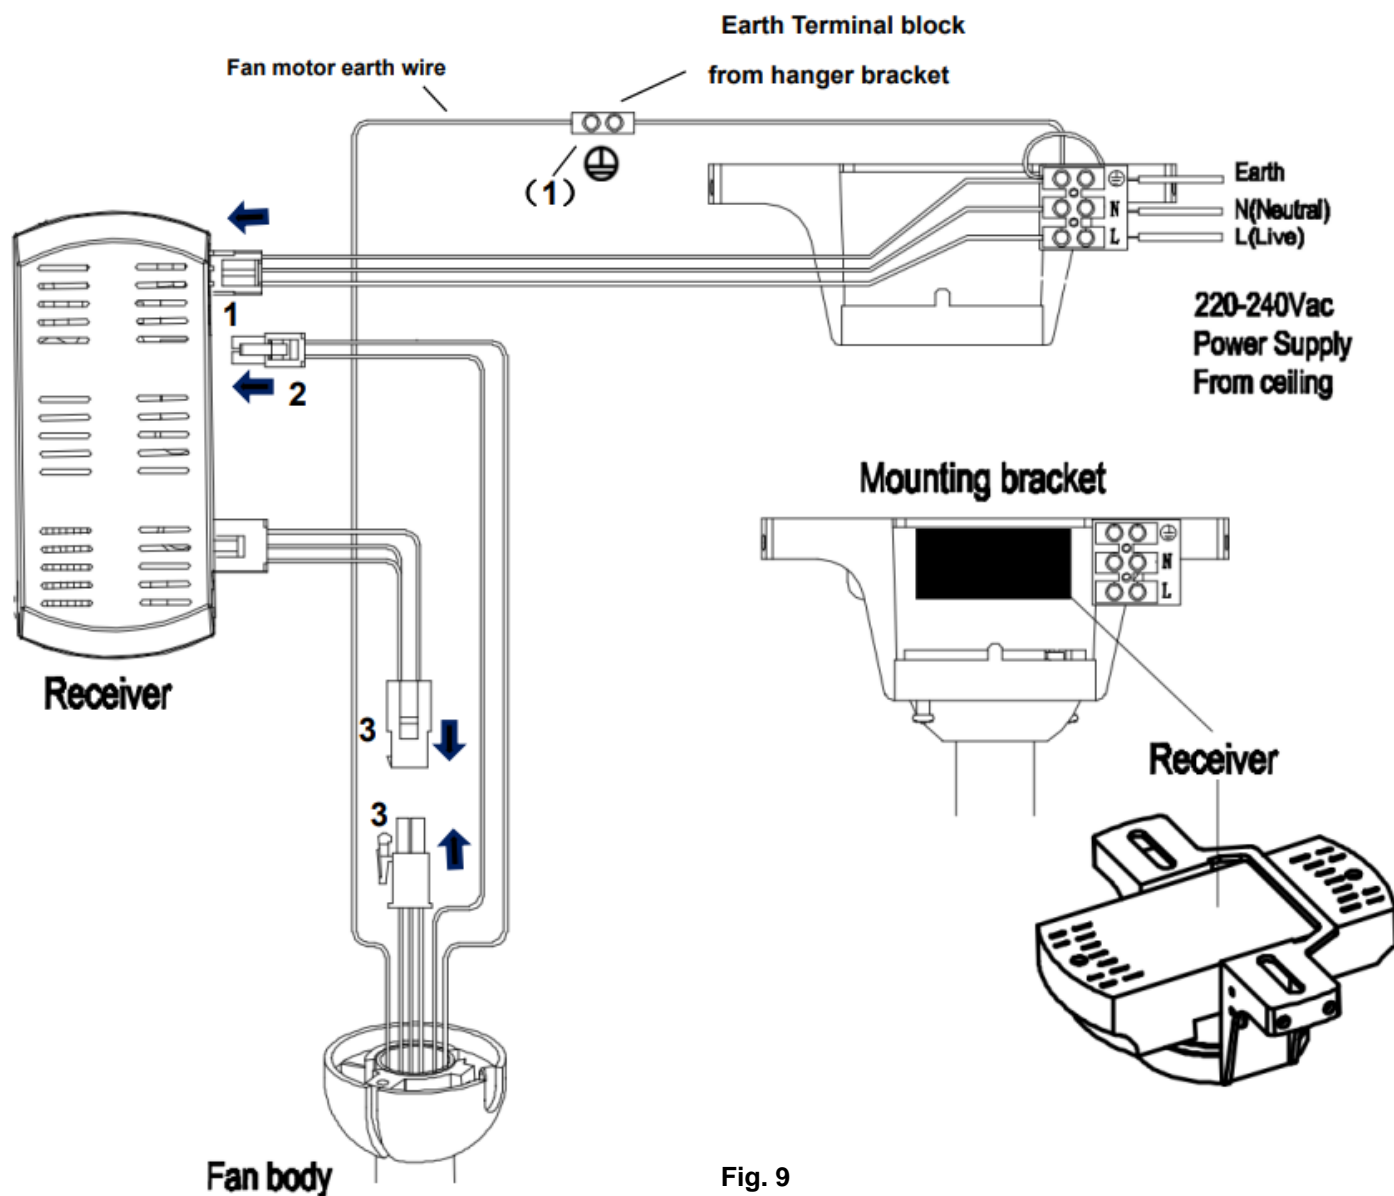

Fig. 9
PREPARE AND COMPLETE THE ELECTRICAL WIRING --- WIRING DIAGRAM (FIG. 9)
NOTE: Ensure the motor earth wire is connected to the single earthing terminal block “ (1) ” in the diagram below (Fig. 9).
From mains supply to mounting bracket terminal block: (Fig. 9)
From mounting bracket to receiver and motor: (Fig. 9)
Carefully insert the Remote Receiver above the hanger ball in the remainder spacing in the mounting bracket. Take care not to damage or loosen any of the wiring. (Fig. 9).